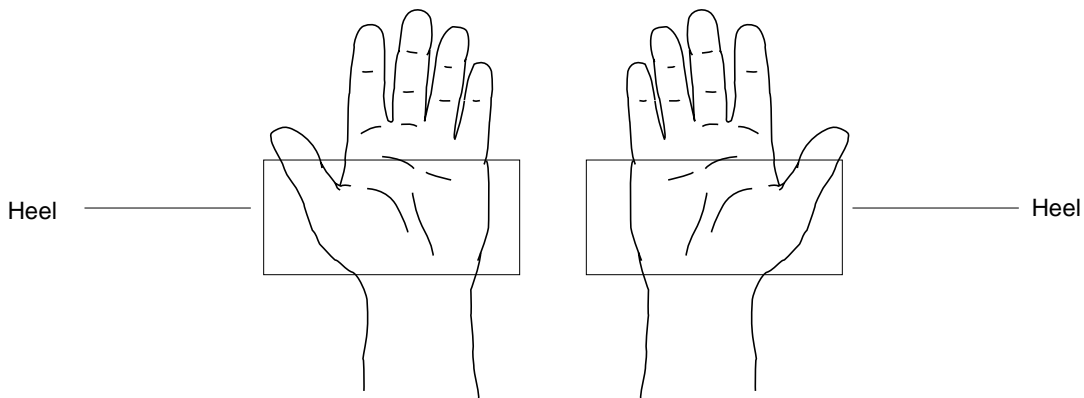

FIGURE 8-8 Heel of Each Hand
- 9. Place the heel of each hand on each side of the insertion tool's pushing surface, and press the tool down firmly until the DSIMM snaps into place. See FIGURE 8-8.**